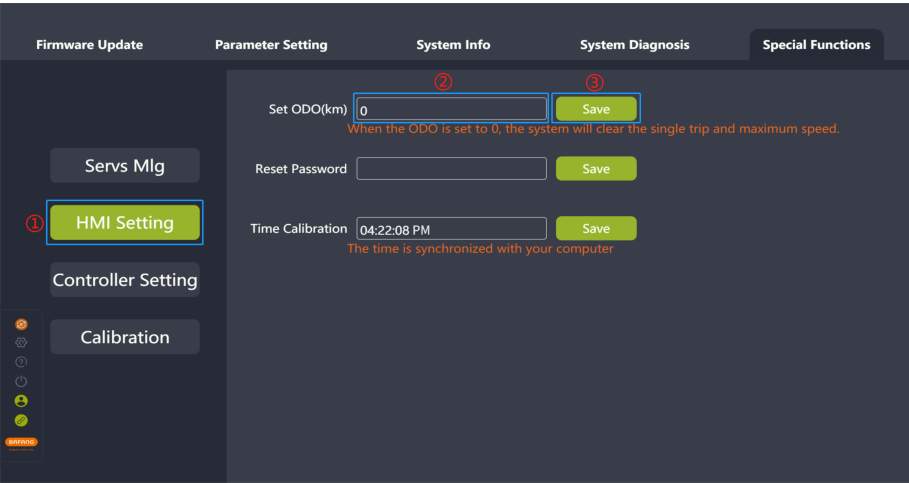

Fig 8-4 Set ODO
- 3. Click "Save" (Figure 8-4).
3. Click "Save" (Figure 8-4).